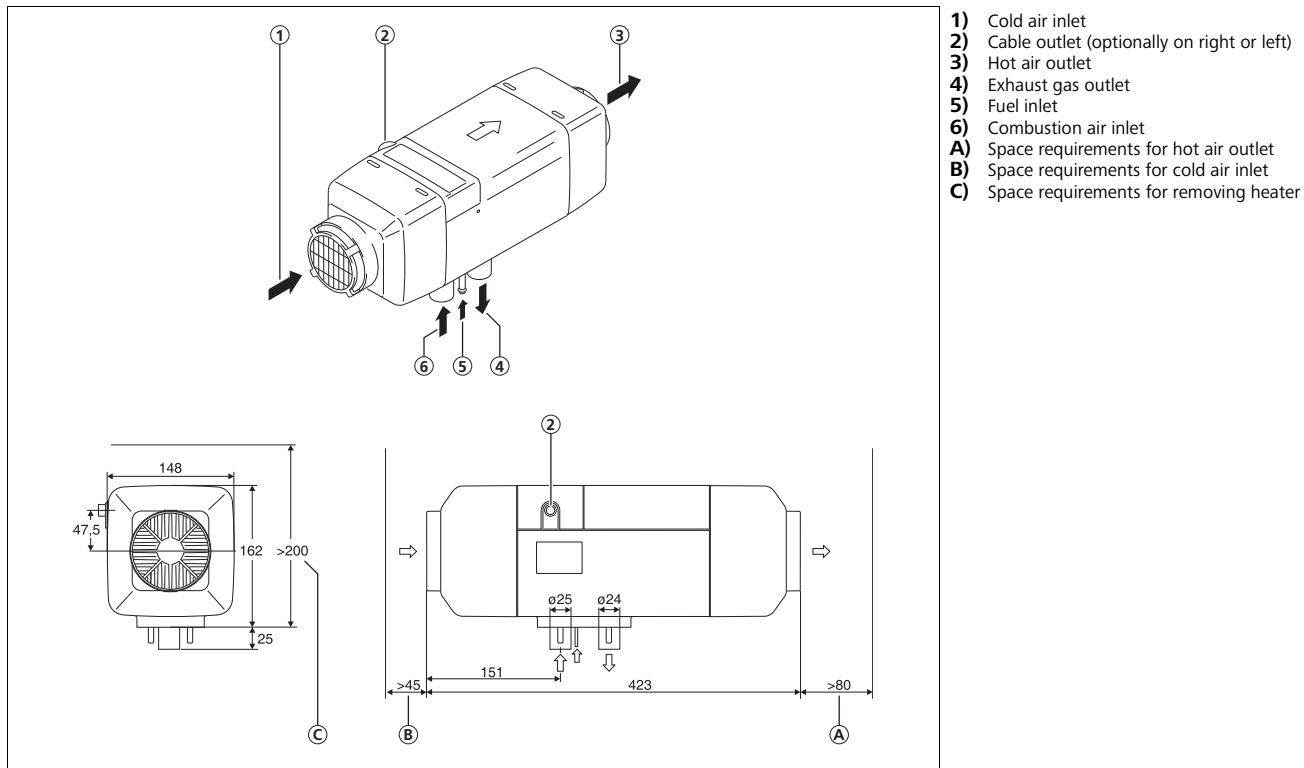
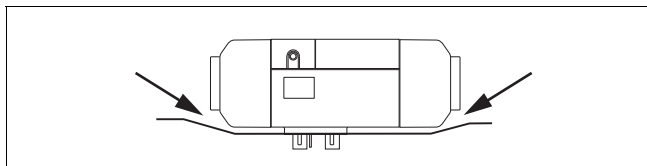

Fig. 3 Dimensions and space requirements [mm] Air Top Evo 40 / Air Top Evo 55
Fig. 7 *Ensure ease of movement of all moving parts!*
- Make sure that the casing of the heater is clear, i.e. does not make contact with any other parts, in installed position (see Fig. 7).
see Fig. 3 and Fig. 7